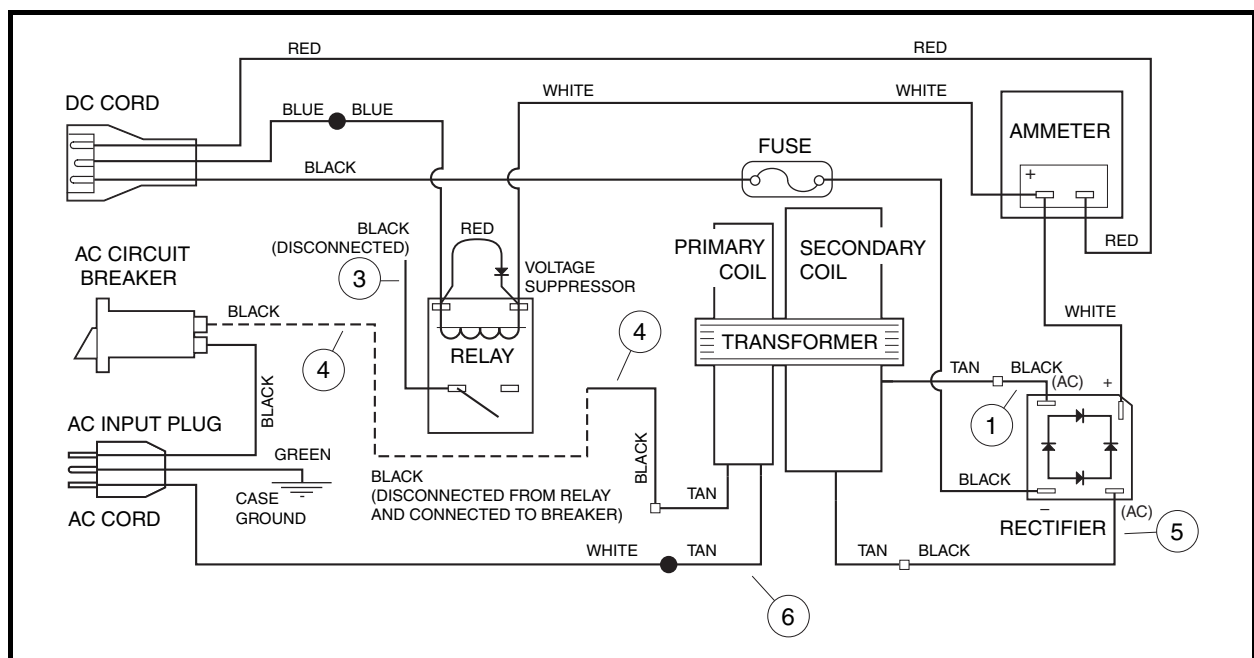

Figure 5-16 Transformer Test Wiring Diagram
- 5.2.1. To bypass the relay, remove the black wire (3) from the AC circuit breaker and disconnect the black wire (4) from the relay. Connect the black wire (4) to the AC circuit breaker (Figure 5-16, Page 5-19).
6. If the circuit is not complete, check the wiring of the AC cord, transformer primary coil wires, and internal AC circuit breaker (**Figure 5-16, Page 5-19**).
3. Disconnect the two black transformer secondary coil wires (1 and 5) from the rectifier (**Figure 5-16, Page 5-19**).
- 4.1. To bypass the relay, remove the black wire (3) from the AC circuit breaker and disconnect the black wire (4) from the relay. Connect the black wire (4) to the AC circuit breaker (**Figure 5-16, Page 5-19**). **See following DANGER.**
9. Connect the AC cord to the wall outlet and monitor the multimeter for the secondary coil voltage. If measured voltage is approximately 42.5 volts AC or lower for the secondary coil, the transformer is shorted internally and must be replaced (**Figure 5-16, Page 5-19**).
The PowerDrive 2 battery charger transformer has two sets of coils: a primary coil and a secondary coil (**Figure 5-16, Page 5-19**).
4. Disconnect terminals from transformer (tan and black) primary coil transformer wires (4 and 6) (**Figure 5-16, Page 5-19**).
3. Remove the transformer (black) secondary coil wire (1) from the rectifier (**Figure 5-16, Page 5-19**).
4. Remove the other transformer (black) secondary coil wire (5) from the rectifier.